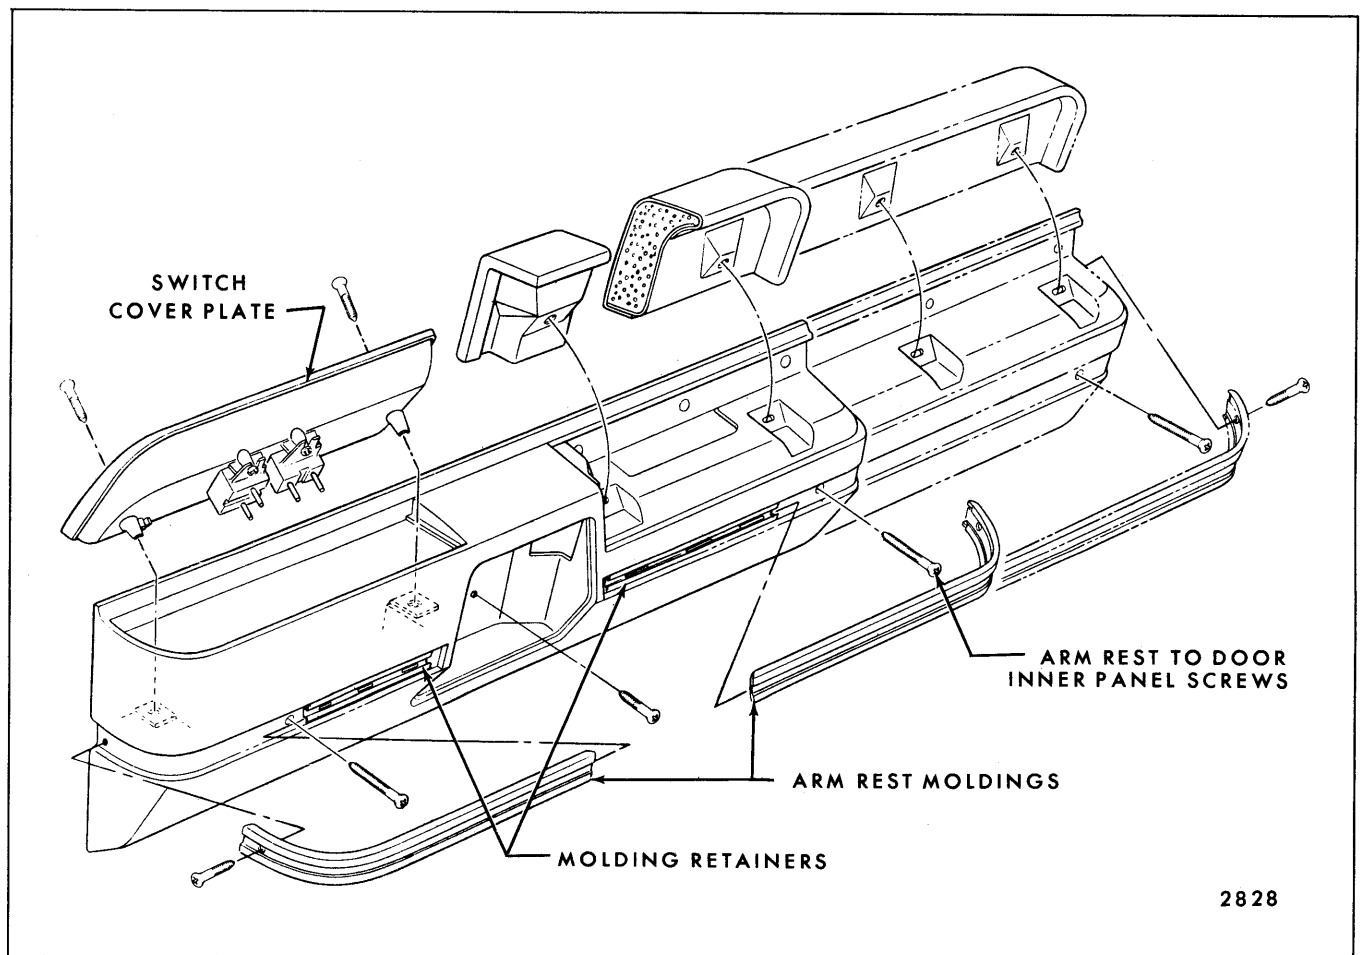

Fig. 14-10—Door Trim Pad Removal - Oldsmobile - Buick "C" Styles
4. On styles with switch cover plate in door arm rest (Fig. 14-10), remove screws securing cover plate and disconnect switches and vacuum door lock actuator, if present, from wire harness connectors and vacuum hoses.
6. On Oldsmobile 38000 and Buick 48000 series, remove arm rest moldings to expose arm rest to door inner panel attaching screws located under moldings (Fig. 14-10).